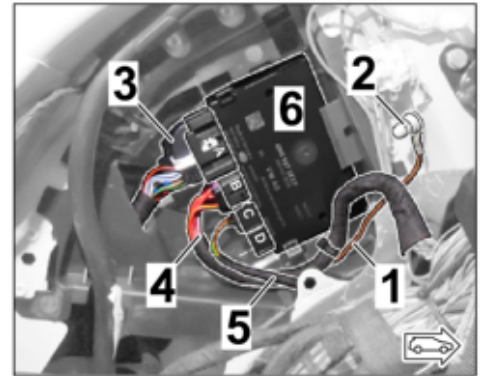

Figure 14
2.5 Install cable ring eyelet A6 at the ground pin MB25 ⇒ *Figure 14 -2-*.
2.6 Connect plug connections for connector A/B/C to the trailer hitch control unit ⇒ *Figure 14*.